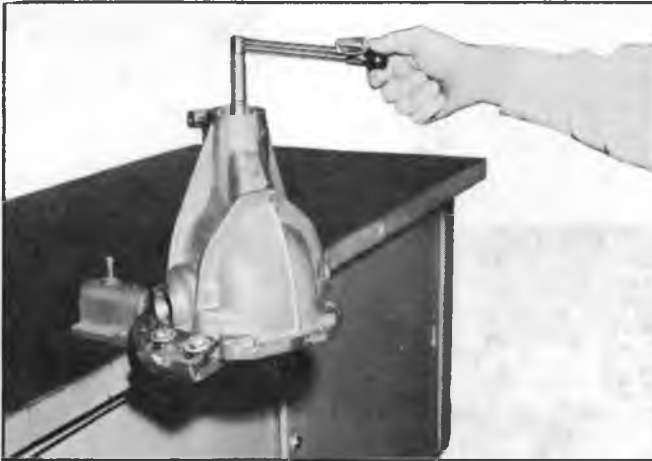

Fig. 14C--Measuring Drive Pinion Bearing Rotating Torque
4. Tighten clamp screw until it takes a torque of 20 in. lb. to rotate bearings as shown in Figure 14C.